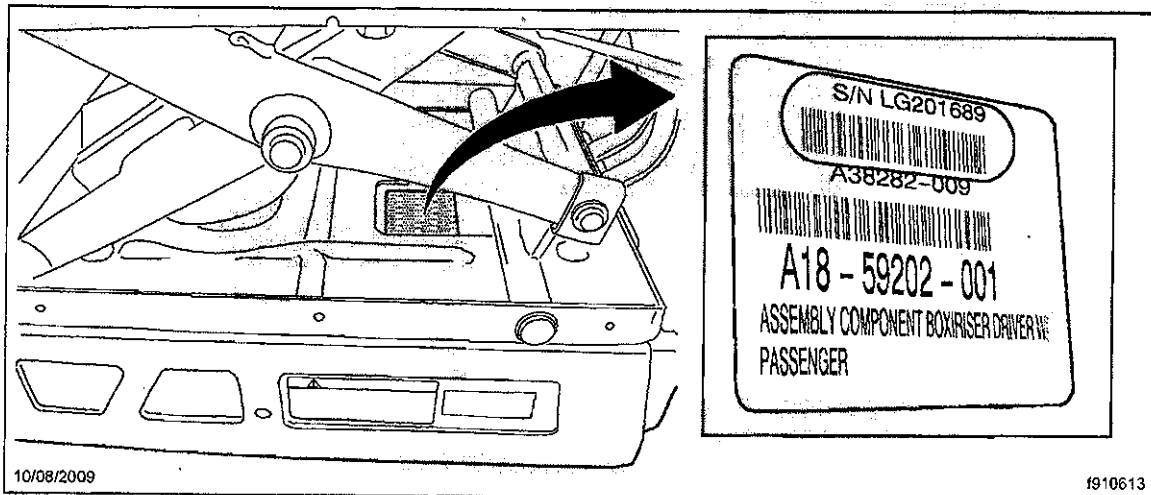

Fig. 1, RollTek Serial Number Location
3. Locate the serial number on the driver side (all vehicles, FL559A-C) RollTek module, and verify whether it is one of the affected modules. See Fig. 1 and Table 3. Repeat this step on the passenger side of the vehicle, if applicable (FL559C only).
NOTE: The serial number shown in Fig. 1 is only an example. It is not an affected serial number.